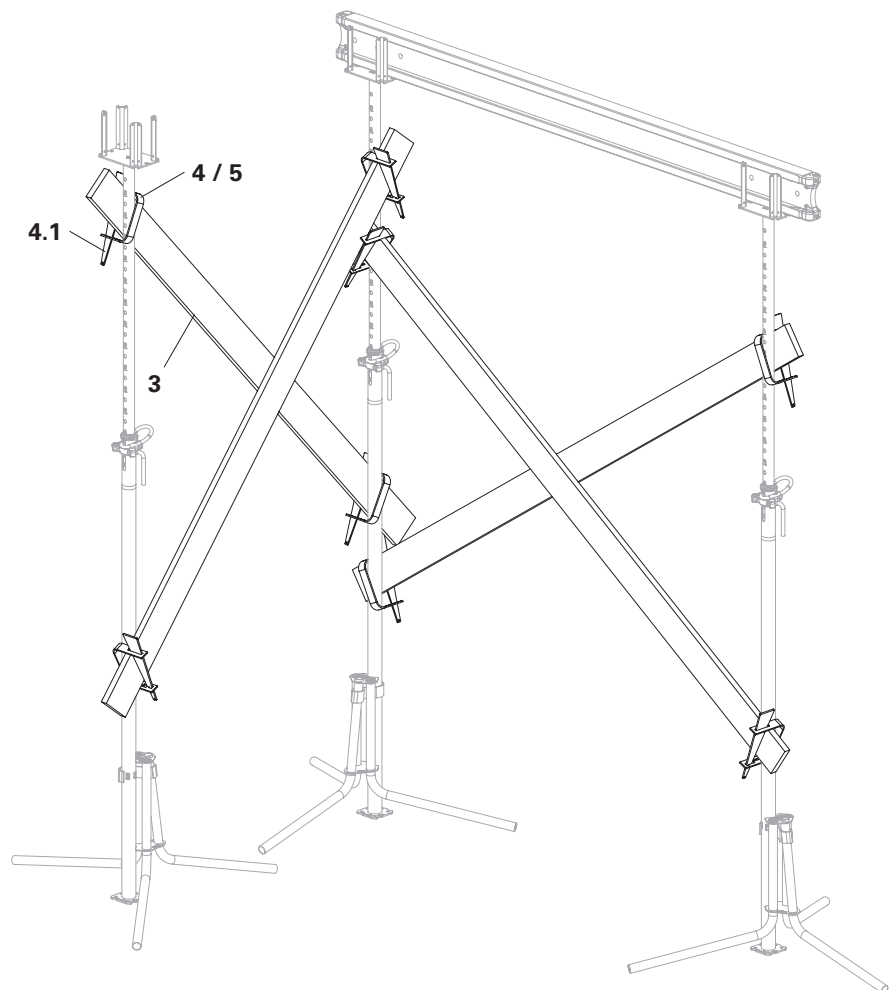

Fig. A1.07
3. Insert the bracing board (3) into the open side of the brace clamp (4 / 5).
- The wedge (4.1) fixes the bracing board in place (3).
5. Fit additional bracing boards (3) with brace clamps (4 / 5). (Fig. A1.07)